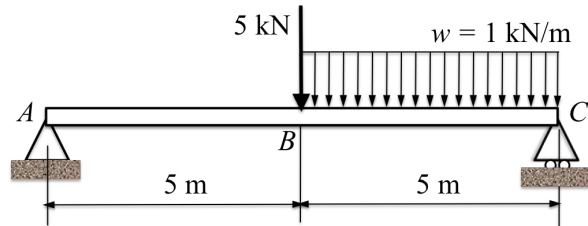

Figure 5
5. A simply supported beam is subjected to uniformly distributed load and a concentrated force as shown in Figure 5.